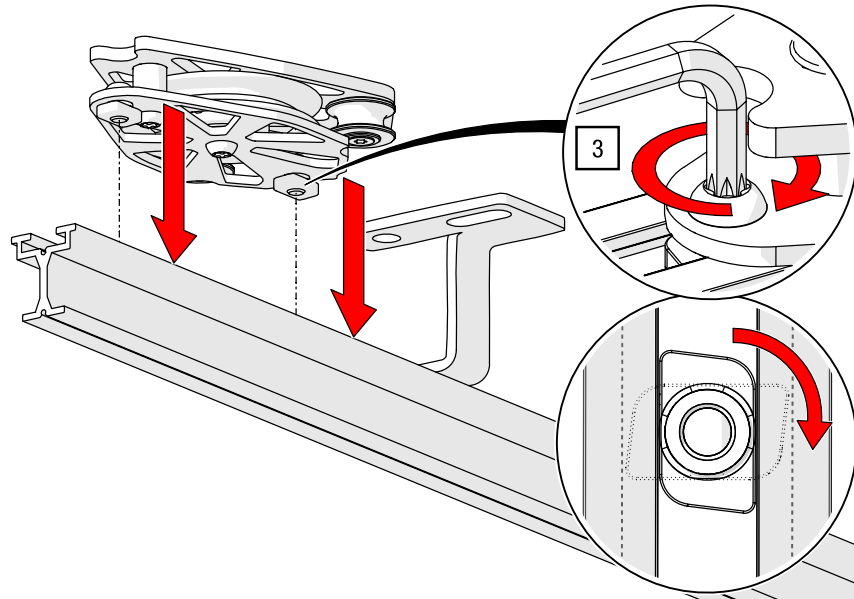

Fig. 88: Top cord operation – Fitting the return pulley
3. Position the pre-assembled return pulley (top cord operation) at one end of the track and tighten the screws with the slot nuts positioned in the track profile using a TORX®-key T40 and 27 Nm (see Fig. 88).